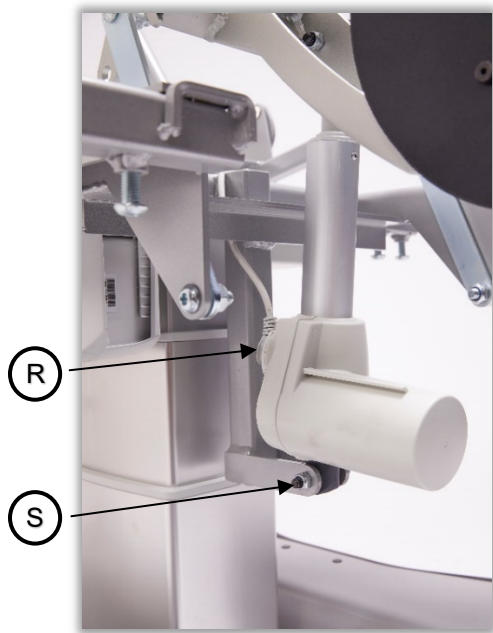

FIGURE 15. LEG REST ACTUATOR
4. Disconnect the actuator cable (R) (Figure 15).